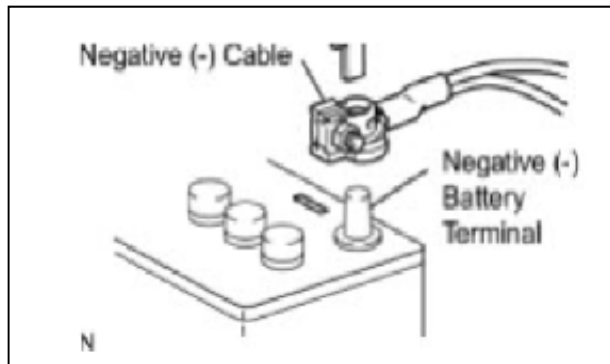

Figure 1
1. Remove the NEGATIVE (-) battery terminal before starting any disassembly. Do not touch the positive terminal. Wait at least 90 seconds after disconnecting the cable from the negative (-) battery terminal to disable the SRS system. See Figure 1.